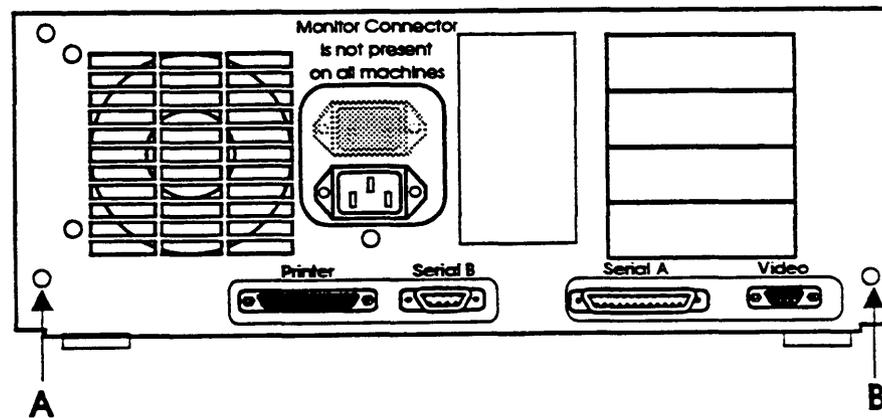

Figure 3-1. Master Controller II+ Cover Screws
3. Loosen the two main cover-securing screws (A and B) on the back panel as shown in Figure 3-1.